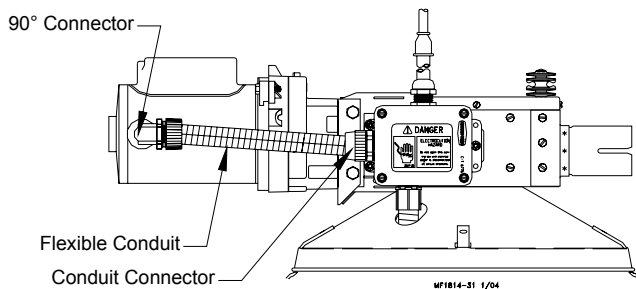

Figure 33. Conduit Installation
6. Single Phase: Install the 90 degree connector, flexible conduit, electrical wire, and conduit connector as shown in **Figure 33**.